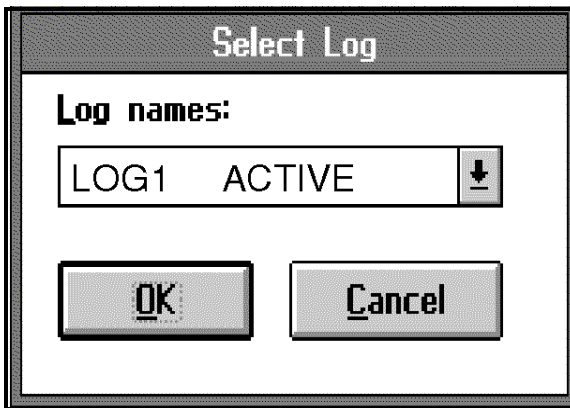

Figure 5-6: Log Selection
1. Select the **Erase Log from Instrument** command (**ALT+S** and **ALT+E**). A window similar to the one shown in Figure 5-6 below appears.